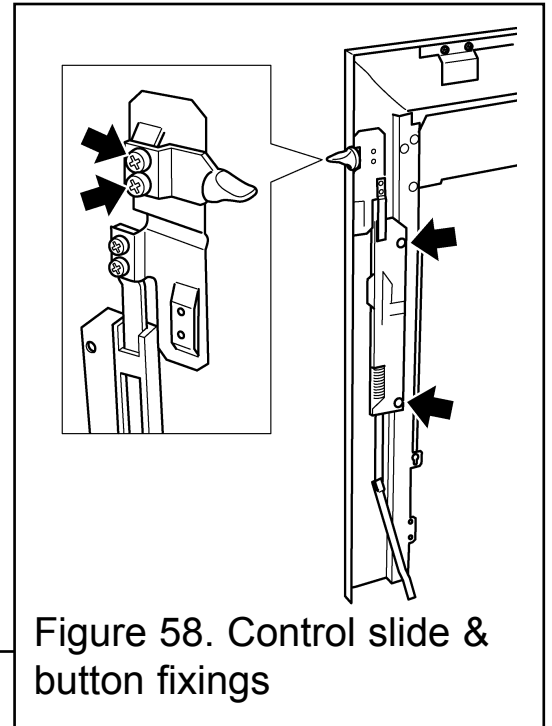

Figure 58. Control slide & button fixings
2. Detach the slide unit by removing two screws securing the plastic slide mechanism to the rear of the front surround – See figure 58.
3. Detach the slide button by removing two screws – See figure 58.